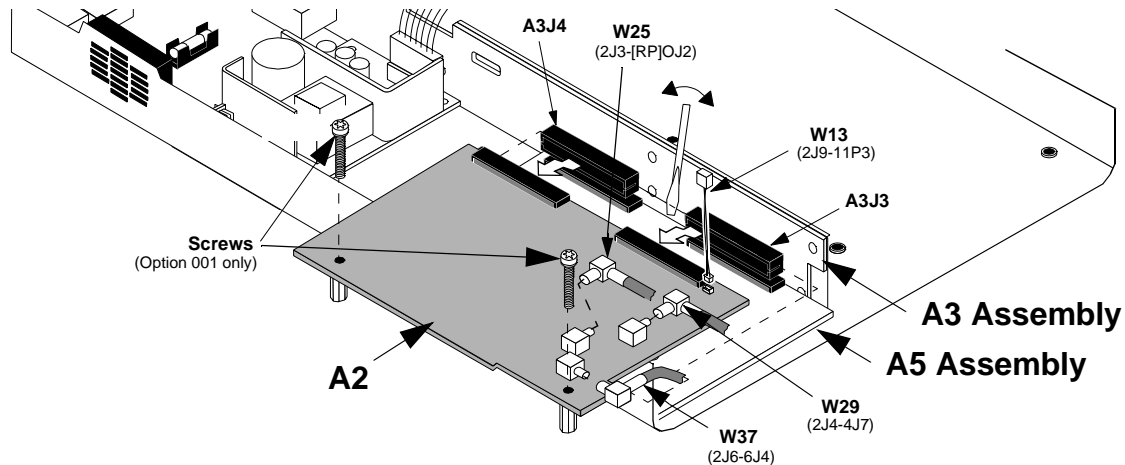
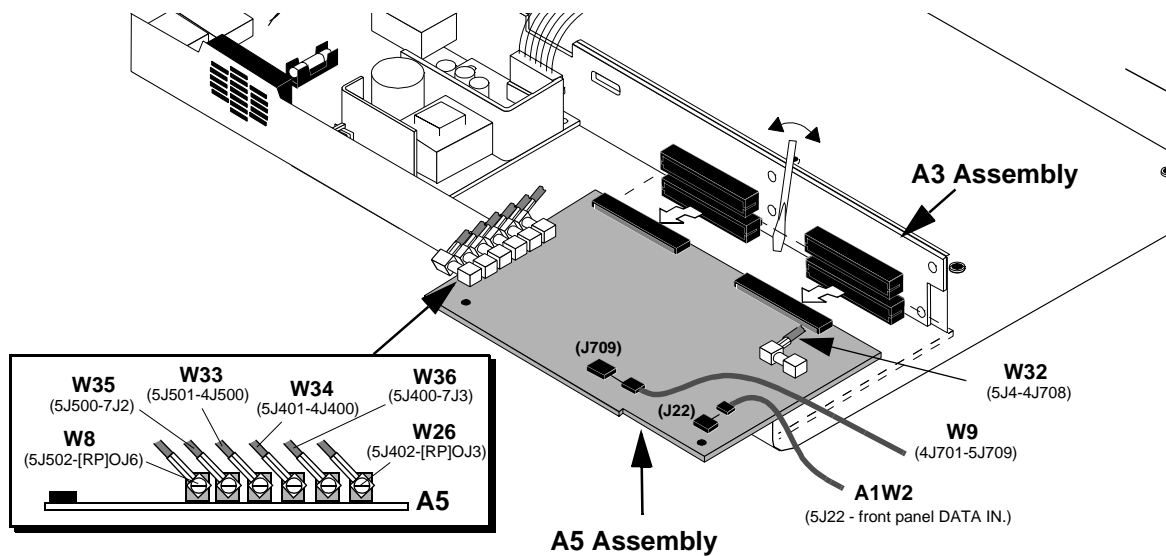

Figure 31
Figure 32 Removing the A5 Data Buffer Assembly
4. If the Cellular Adapter is an Option 001, remove the 2 screws securing the A2 assembly, see figure 31.
5. Disconnect the cables and SMB connectors shown in figure 31 from the A2 assembly.
6. With a flat blade screwdriver wedged between the A2 assembly and the A3 motherboard assembly, carefully push and tilt the end of the A2 assembly over the edge of the deck to unplug it from the J3 and J4 connectors of the motherboard, see figure 31.
7. To remove the A5 Data Buffer assembly, disconnect the cables and connectors shown in figure 32 from the A5 assembly.
8. Using the flat-blade screwdriver, carefully pry and tilt the end of the A5 assembly over the edge of the deck and unplug it from the J5 and J6 connectors of the A3 assembly, see figure 32.
This completes removal of the A2 and A5 assemblies. When reinstalling the A2 and A5 assemblies, use figure 31 on page 81 and figure 32 to identify the location of the cables and connectors.